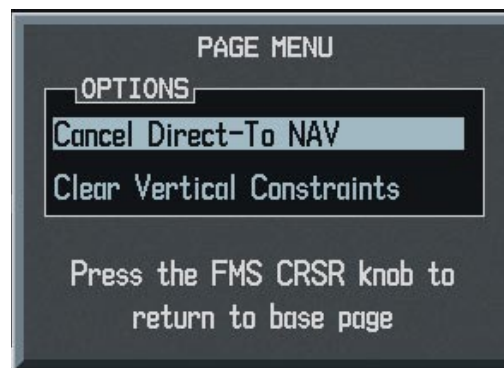

Figure 5-29 Cancel Direct-to Option
- 2) With 'Cancel Direct-To NAV' highlighted (Figure 5-29), press the **ENT** Key. If a flight plan is still active, the G1000 resumes navigating the flight plan along the closest leg.